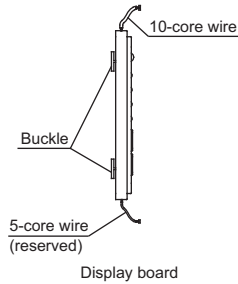

Fig. 18 —LED Display Panel
1. Insert the buckles into the grooves in the electronic control box, and slide the display panel horizontally to lock in place (see Fig. 18 and 19).